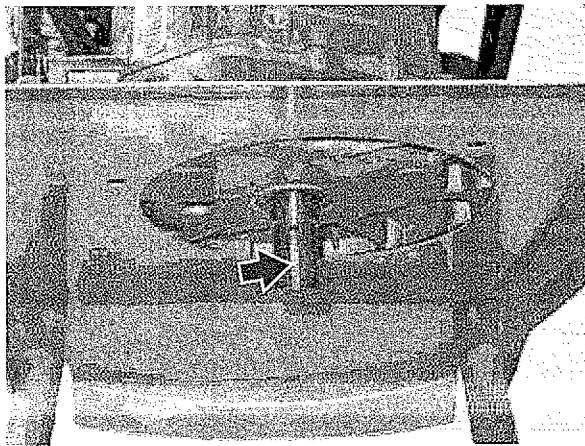

Figure 73 – Key and Crankshaft Keyway WP2500 Shown
- Inspect the key and keyway on crankshaft (see Figure 73).